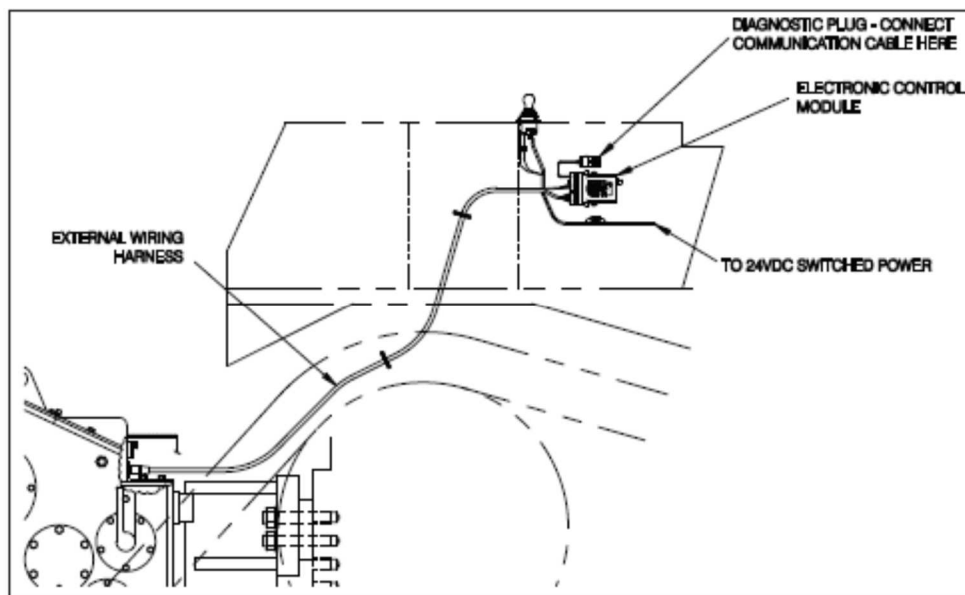

Figure 1 - Electronic Control Module and Diagnostic Plug
- 2) Attach the communications cable to the diagnostic plug on the winch external wiring harness and to one of the computer's COM ports or to a USB to serial COM port adapter. See Figure 1.